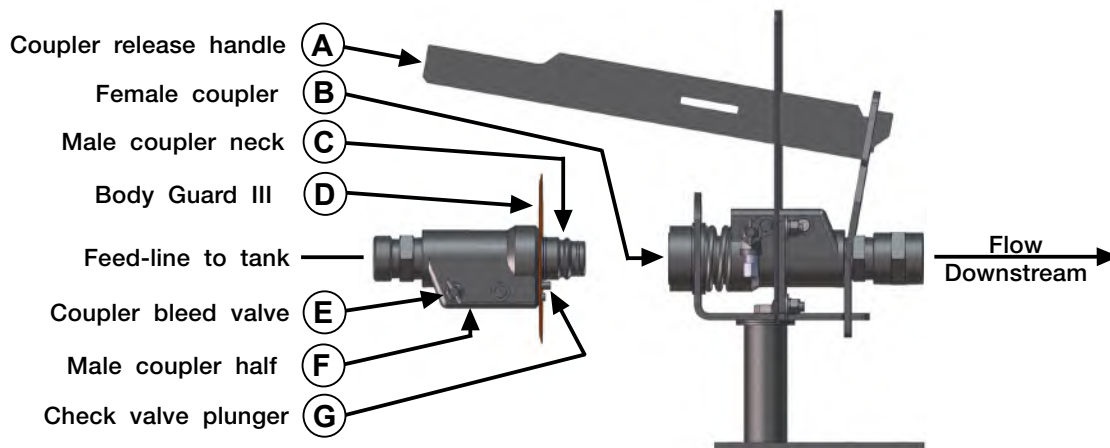
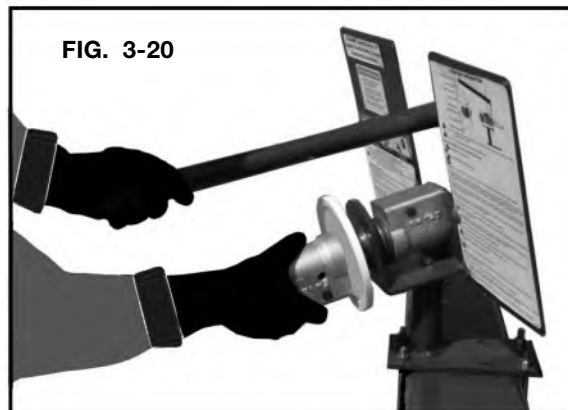
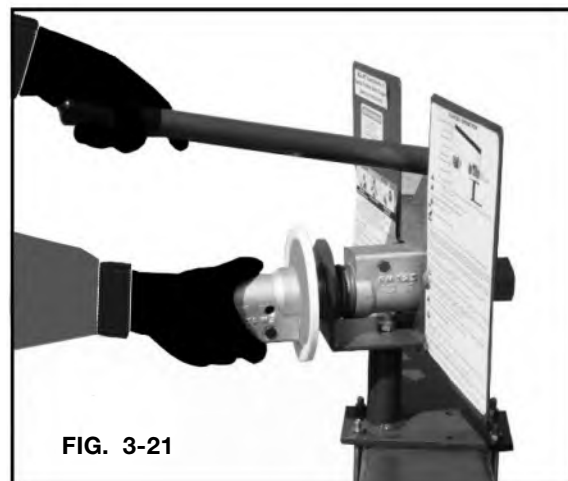

FIG. 3-18
FIG. 3-20
FIG. 3-21
2. Relieve pressure in nurse tank hose between male coupler (F) and first shutoff valve towards nurse tank by carefully opening coupler bleed valve (E). (FIG. 3-18)
3. Relieve pressure from the toolbar system piping and female coupler (B). Carefully open the female coupler bleed valve (H) (FIG. 3-18).
4. While holding and pointing the hose and male coupler (F) downwind and away from your person, depress check valve plunger (G) with gloved finger to ensure proper operation (FIG. 3-18 & FIG. 3-19). Wipe foreign debris from coupler neck (C) with clean cloth.
5. Make certain BodyGuard III (D) is installed fully with slot oriented around check valve plunger (G) to protect against ammonia spray-back during coupling (FIG. 3-18 & FIG. 3-20).
6. Insert male coupler neck (C) into female coupler half (B) as far as possible. Then, while applying insertion pressure, pull downward on coupler release handle (A) to complete the coupling process (FIG. 3-18 & FIG. 3-21). Release handle (A) after engagement of coupler neck (C).
7. Lightly pull on male coupler (F) to ensure proper engagement. (FIG. 3-18)
8. Close bleed valves (E & H) and others if open. Open tank and hose valves just prior to applying ammonia. (FIG. 3-18)
1. Stand on the upwind side of the machine. Close all feed-line valves. Bleed pressure from both coupler halves (F & B) by carefully opening coupler bleed valves (E & H). Leave bleed valves (E & H) open. (FIG. 3-18)
2. Then, pull down on coupler release handle (A) and remove male coupler half (F). (FIG. 3-18)